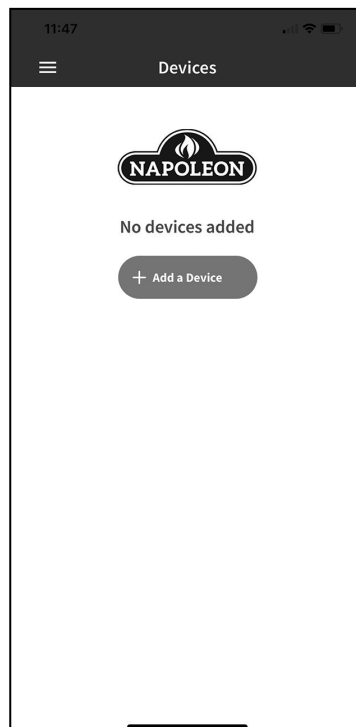

Fig. 16
4. Select “Add Device” and accept permissions (**Fig. 16 & 17**).